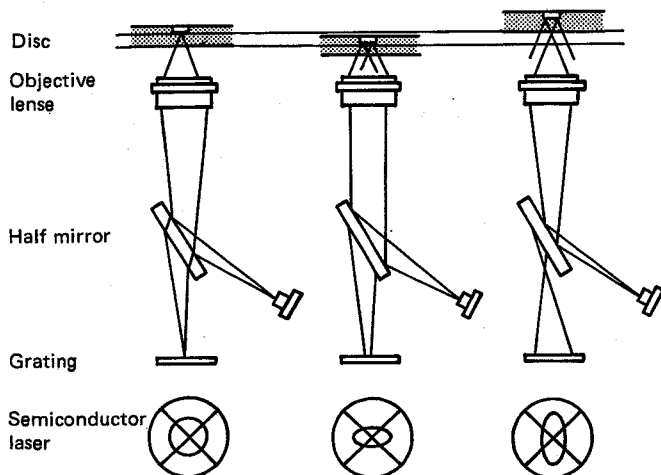
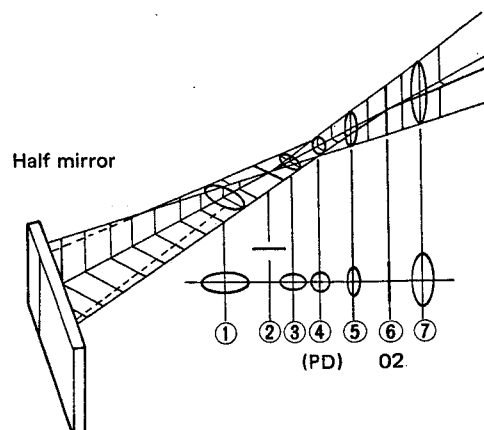

Fig. 4-3
Fig. 4-4 Half mirror
Fig. 4-3 shows how the focus signal is detected. (1) is when the beam from the laser diode is accurately focused on the disc by the objective lens. (2) shows what happens when the disc comes closer to the pickup and (3) shows what happens when the disc moves farther away. The grating and concave lens, which have no direct effect on the focusing are not shown in the diagram.
In case (1), the beam emanating from point 01 is reflected and diffracted on the disc surface to produce the condensed beam (02). In case (2), the beam is directed at a point farther than that of beam 02. Fig. 4-4 shows the properties of the half mirror. 1 through 7 shows the shape of the beam at each point. Between points 2 and 6, which are in a straight line, the beam is circular at point 4. Point 6 corresponds to beam 02 of fig. 4-3. If we assume that fig. 4-4 shows mode (1) of fig. 4-3, that means the beam is circular because the photo diode is located at point 4. In mode (2) of fig. 4-3, the location of the photo diode is closer to the cylindrical lens than it was in fig. 4-4. That means the shape of the beam is the same as that of point 3 (an ellipse that has a longer width than height). In mode (3) of fig. 4-3, the shape of the beam is that of point 5, an ellipse that has a longer height than width.
These beam shapes are shown in fig. 4-3. By performing a $(A + C) - (B + D)$ computation using the A-D photo diode quartering elements, the focus signal is produced.
If the objective lens is moved closer to the disc until point 7 of fig. 4-4 is reached, the shape of the beam at the photo diode becomes an ellipse that is higher than it is wide.